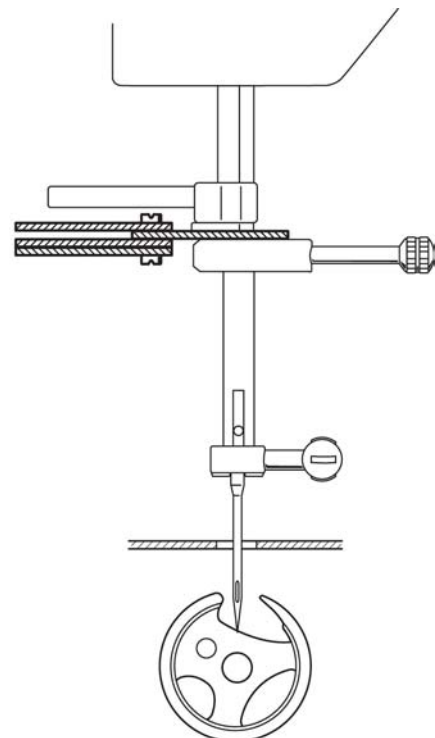

Fig. 15a
- Bring the needle bar to its lowest position by turning the handwheel (fig. 15a).